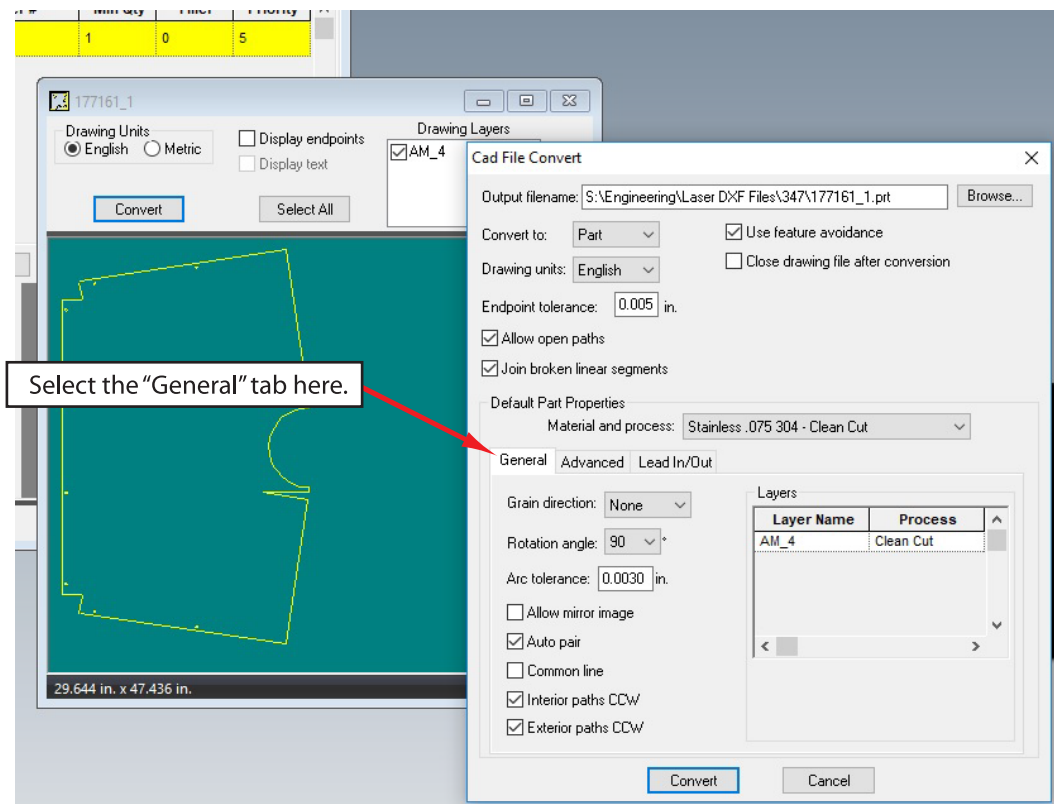

Fig.25
- 30) Last, select the “General” tab and make sure **your window has the same settings as shown below in Fig.25.**